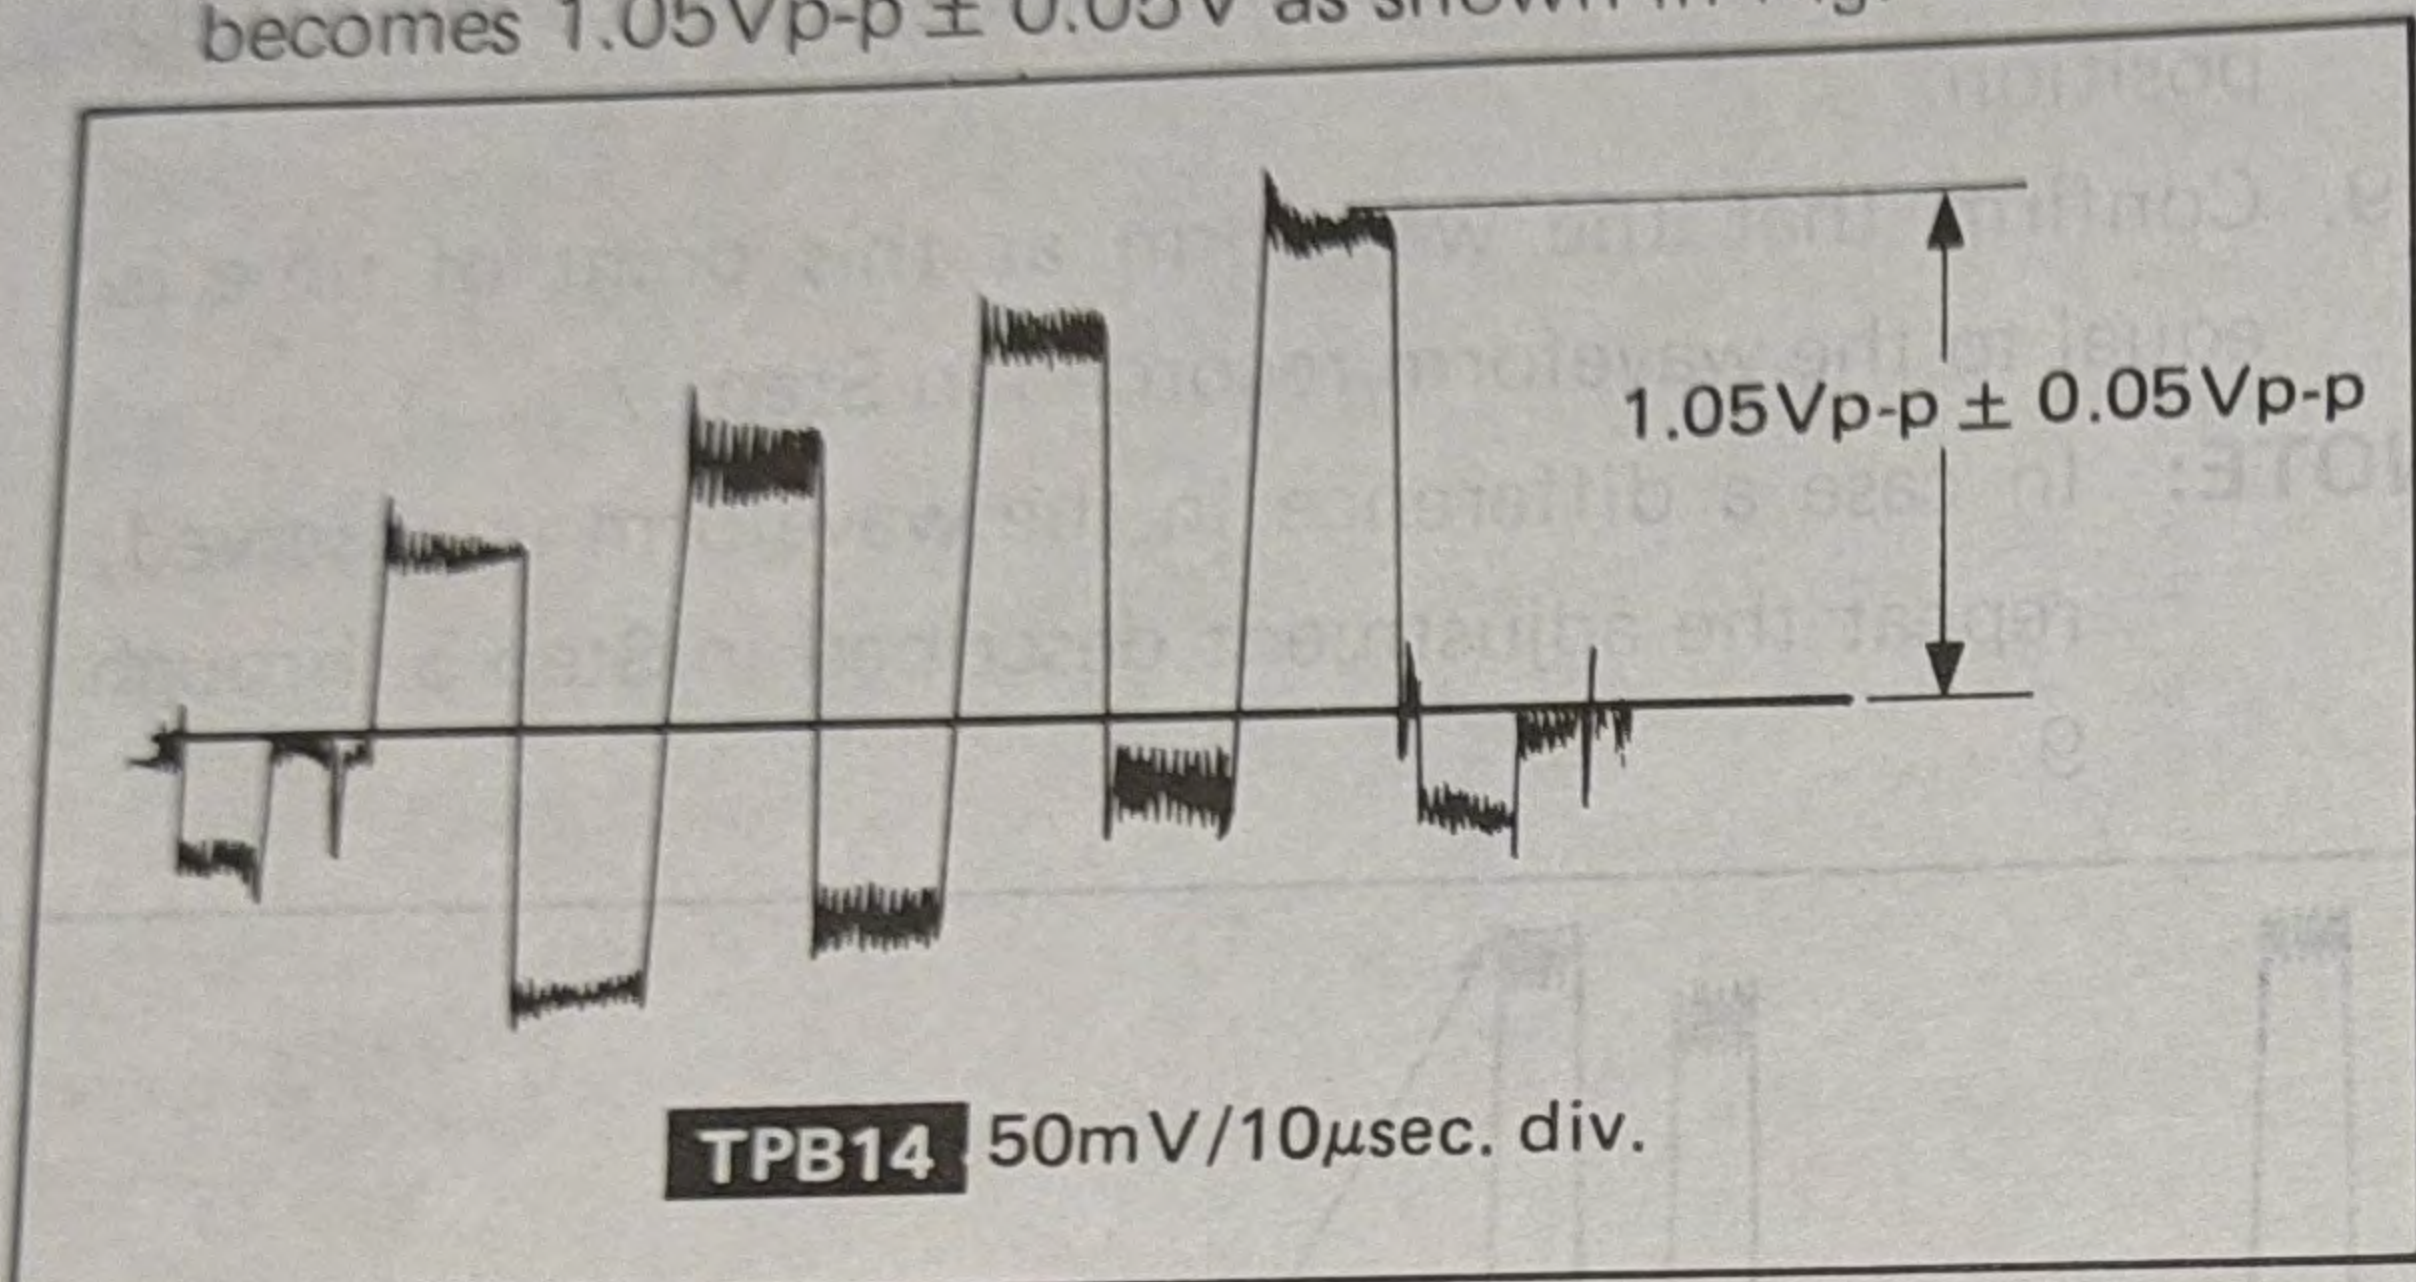

Fig. 40
6. Adjust R5106 (Sub. Color) so that the waveform **TPB14** becomes 1.05Vp-p ± 0.05Vp-p as shown in Fig. 40.